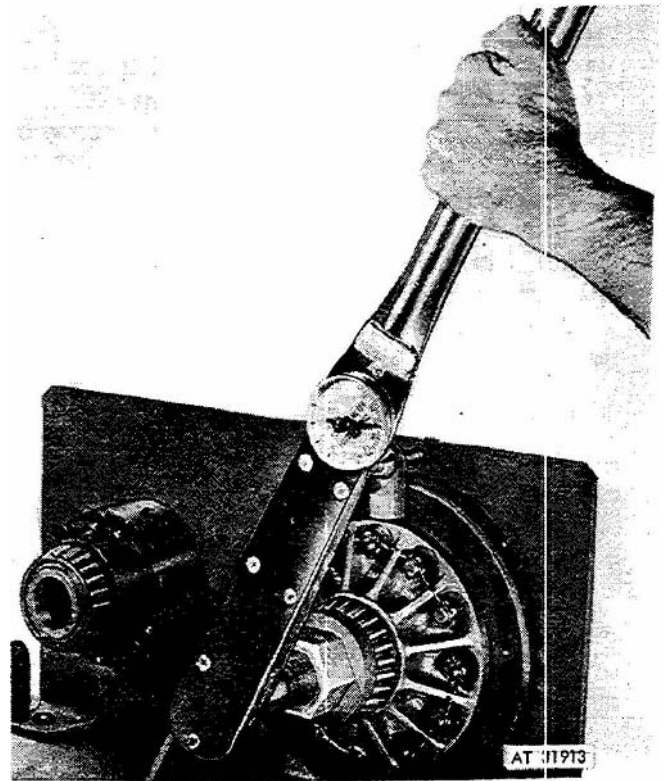

Figure 3-117. Measuring breakaway torque using torque wrench installed on shaft (11660111).
(20) Insert a suitable  $\frac{1}{2}$  inch drive torque wrench on shaft (1, fig 3-102) and check breakaway torque. Torque should be a minimum of 300 lbs-ft. (fig 3-117).